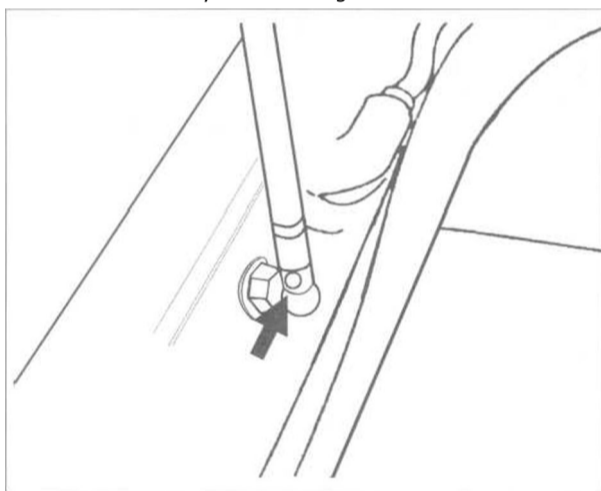

Fig. 7. Support strut spring retainer (arrow) at body end.
- Remove spring retainer from support strut and remove strut from body end. See Fig. 7.